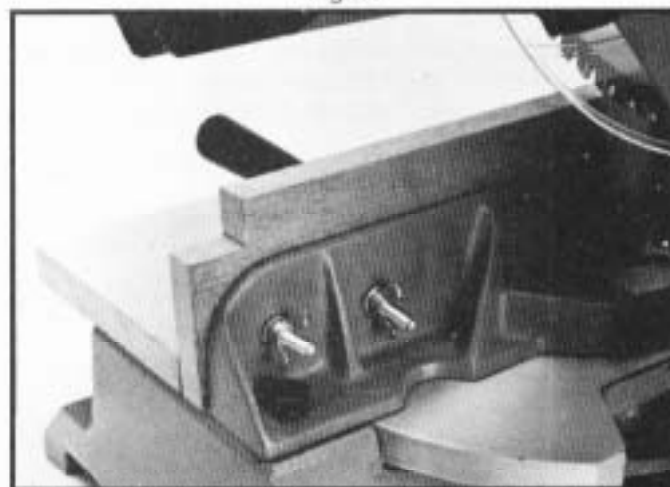

Fig. 68
3. Fasten the support to the fence of the miter box utilizing the four holes located on the miter box fence, as shown in Fig. 68. We recommend for ease of removal and assembly of the support, hanger bolts and wing nuts be used.